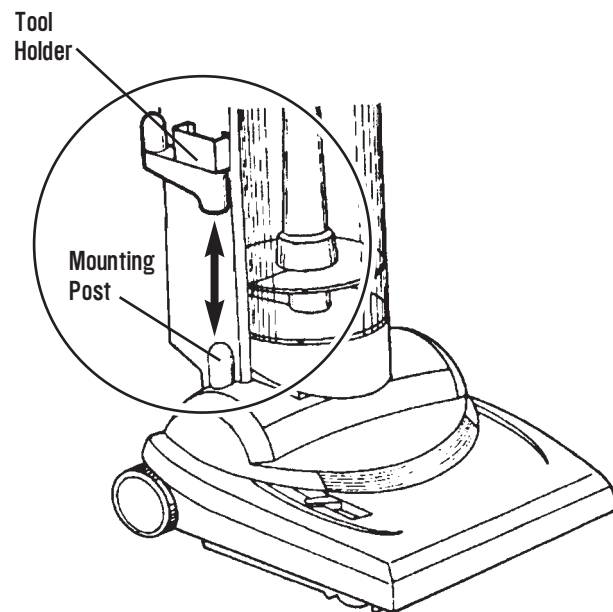

Figure 4a
2. Position the Tool Holder so that the dome-shaped cylinder fits right on top of the Mounting Post. (See Figure 4a.)